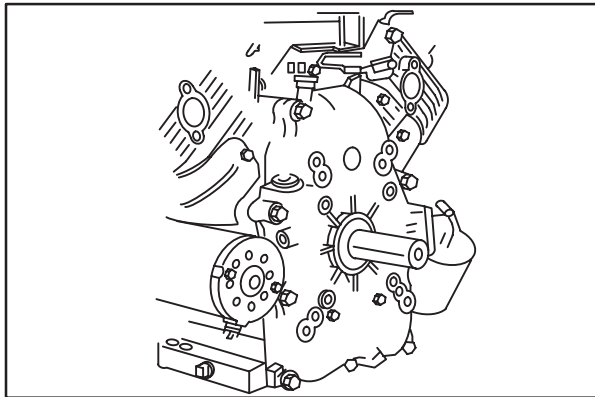

Fig. 6
7. Remove crankcase cover, Fig. 6.